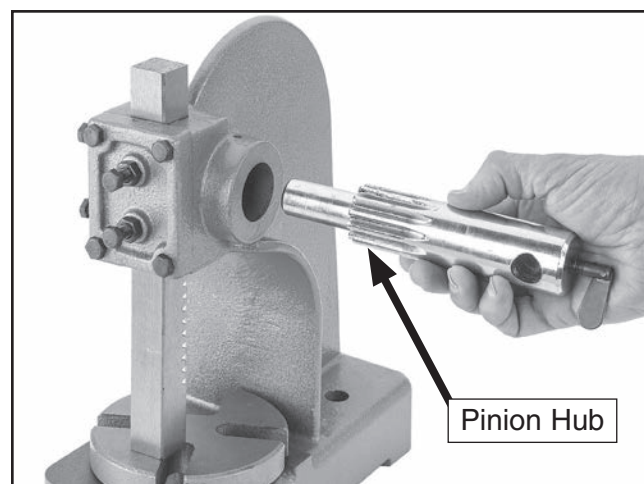

Figure 6. Inserting pinion hub into arbor press.
1. Insert pinion hub into main body of arbor press (see **Figure 6**).